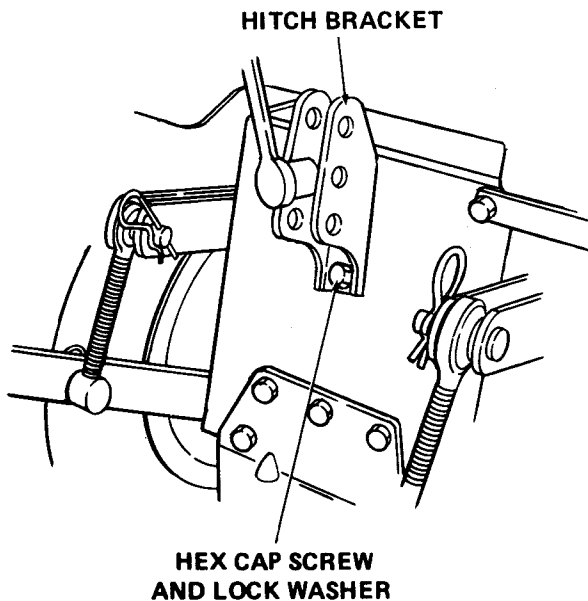

Figure B-21
10. Install hitch bracket (7) on 3-point hitch plate assembly with two lock washers (B) and hex cap screws (M). Refer to Figure B-21.